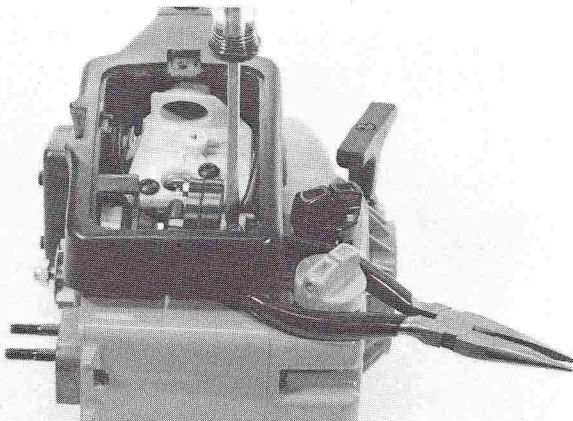

FIGURE 27
5. Support the throttle handle when installing the oil pump screw. See Figure 27 .